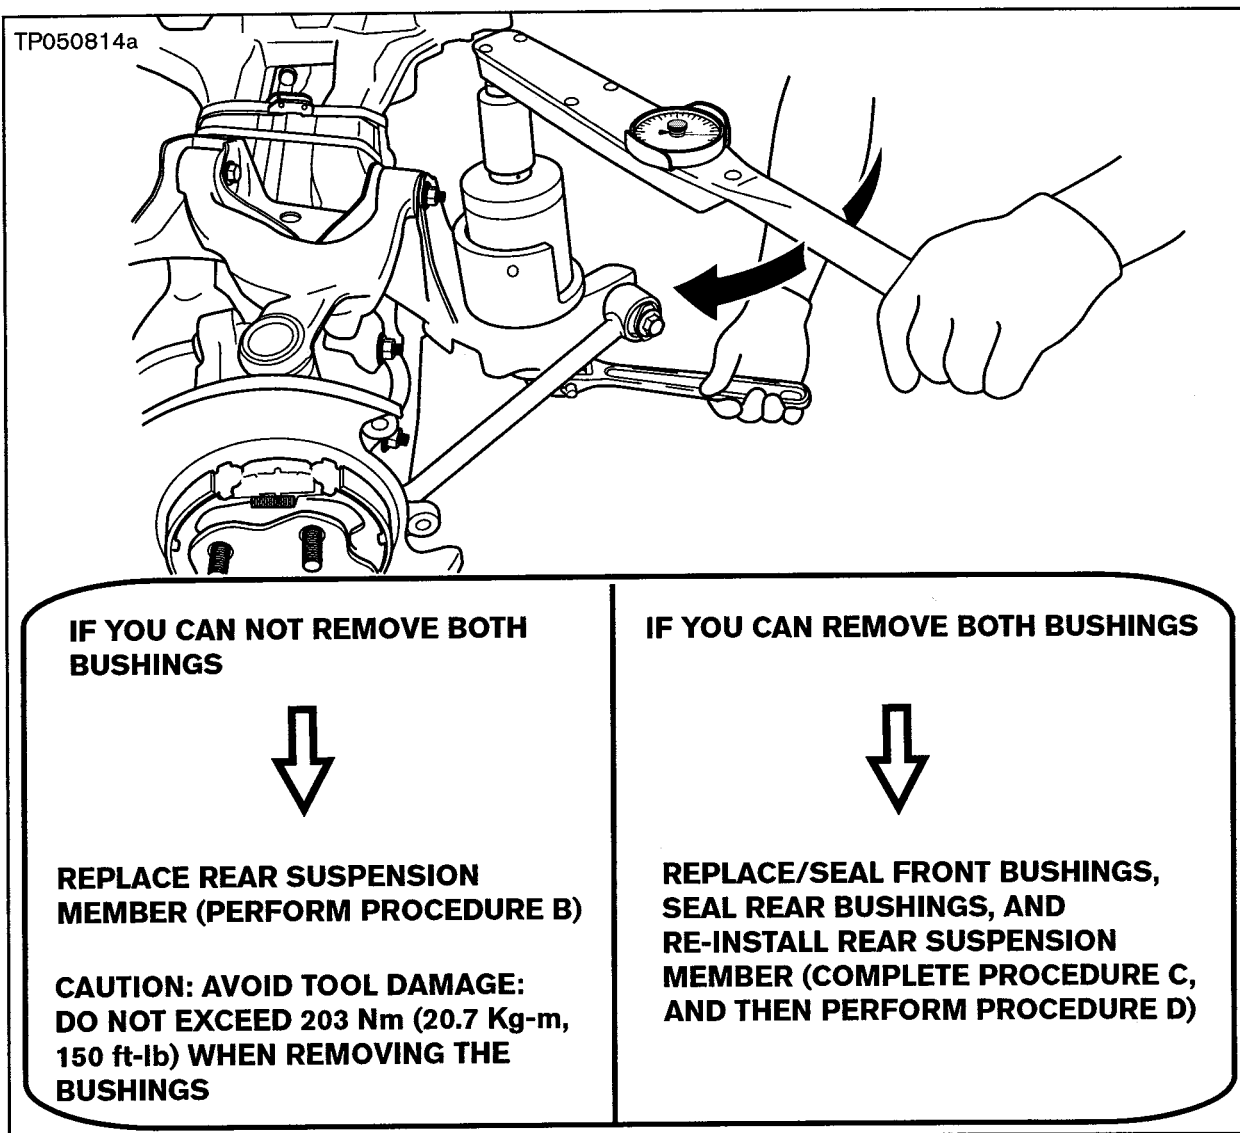

Figure C7
2. Using a torque wrench with the bushing remover/installer tool, remove both front bushings (see Figure C7).